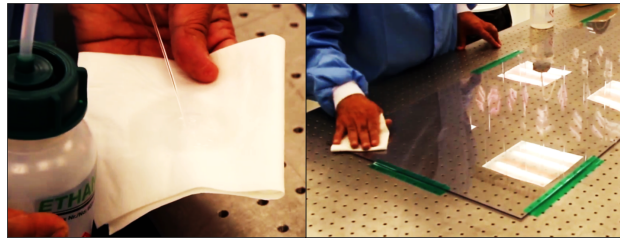

Figure 51: Cleaning of the assembly baseplate.
Step 2: Clean the entire surface of the baseplate with a clean piece of tissue using ethanol (Fig. 51).